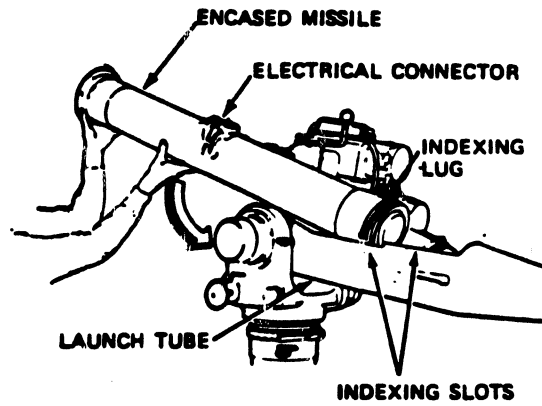

Fig 4-10. Installing encased missile.
Step 7. Turn the encased missile so that the electrical connector is on top, slide the indexing lugs on the encased missile into the indexing slots on the launch tube, and slide the encased missile forward and down into the launch tube until the indexing lugs are firmly in place (fig 4-10).